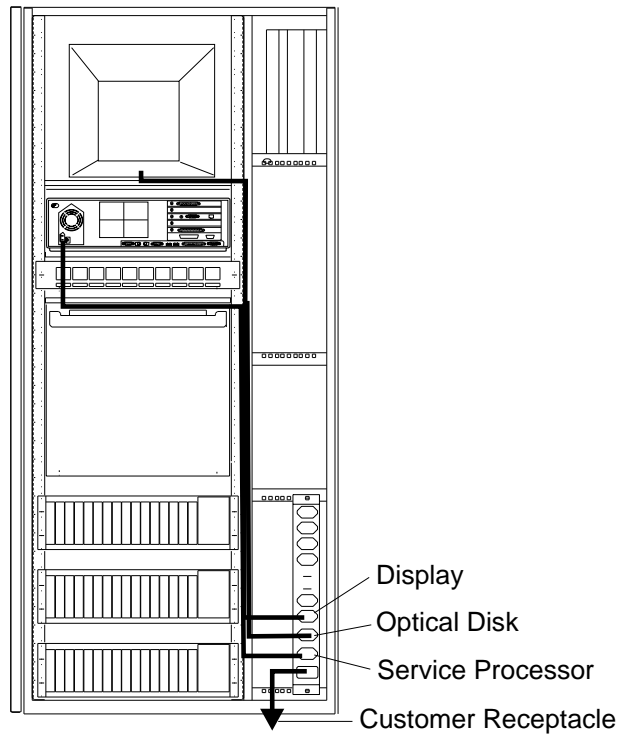

Figure 1-16. Power Cords Connection
20. ____ Route and connect the power cords (PN 58G5783) from the display, optical disk drive, and service processor unit to the ac outlet distribution box as shown in Figure 1-16. Secure these cables using tie clamps along the frame, then go to step 22 on page 1-19.